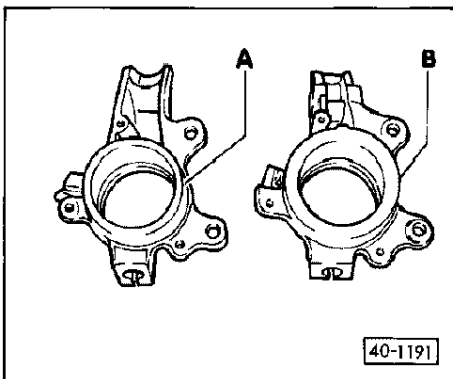

Fig.11 Forged and cast wheel bearing housings
- ◆ Note different types of wheel bearing housing => Fig. 11
- ◆ Note different types of wheel bearing housing => Page 40-10, Fig. 11